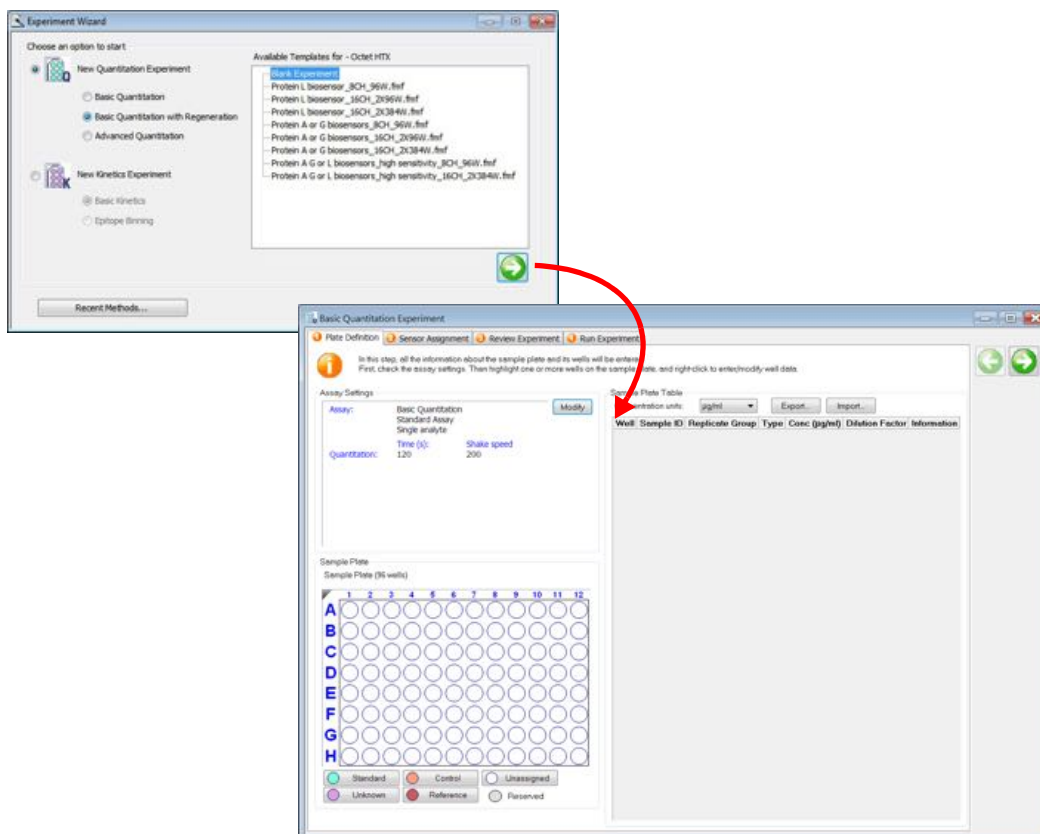

Figure 6-1: Selecting an Experiment Type in the Experiment Wizard (for Octet RED96)
2. In the **Experiment Wizard**, select **New Quantitation Experiment** (see Figure 6-1 left).
The **Experiment** dialog box displays (Figure 6-1 right).